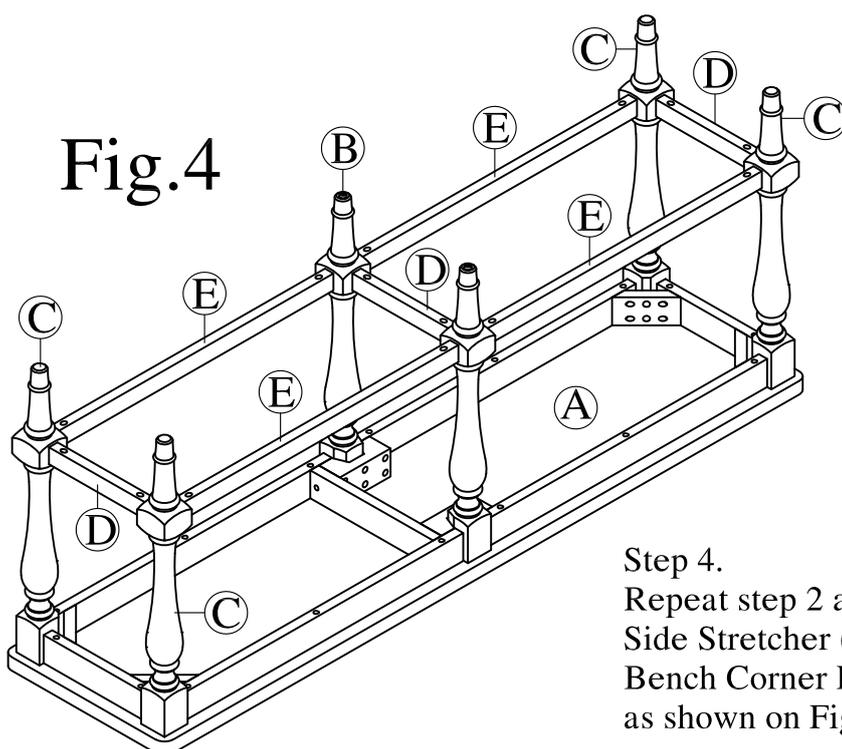

Fig.4
Repeat step 2 and step 3 to attach the remaining Side Stretcher (D), Front Stretcher (E) and Bench Corner Leg (C) to Wooden Seat with Frame (A). as shown on Fig.4.